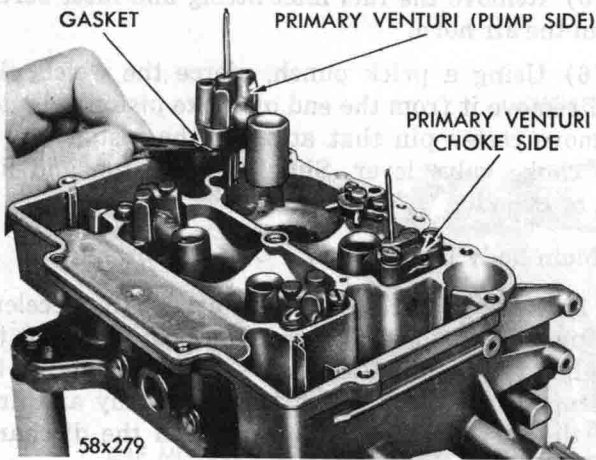

Fig. 61—Removing or Installing Primary Venturi
(4) Remove the screws that attach the primary venturi (choke and pump side) to the main body. Lift the venturi straight up and away from the main body, as shown in Figure 61. Discard the gaskets.
(4) Place new secondary venturi gaskets in position, install the secondary venturi (pump and choke side) by lowering straight down on gaskets. Install attaching screws and tighten securely.
(5) Place new primary venturi gaskets in position, then install the primary venturi (pump and choke side) by lowering straight down on the gaskets. (See Fig. 61.) Install attaching screws and tighten securely.